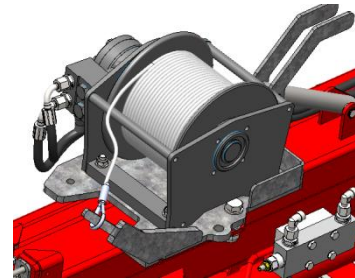

Figure: 34
- Check that the winch cable is taught and neatly wound around the winch drum. If not, unwind it and roll it up neatly (see *figure 34*).